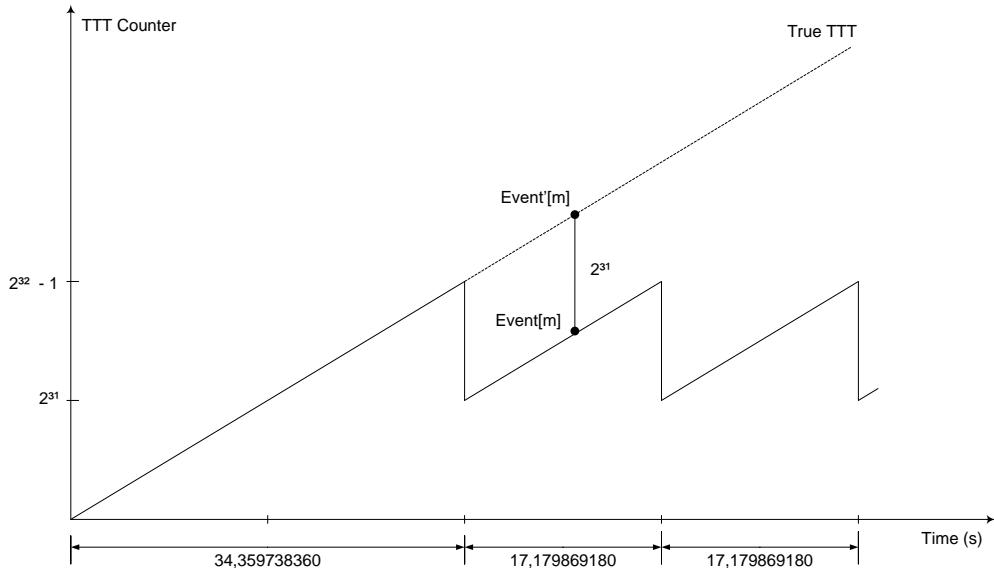
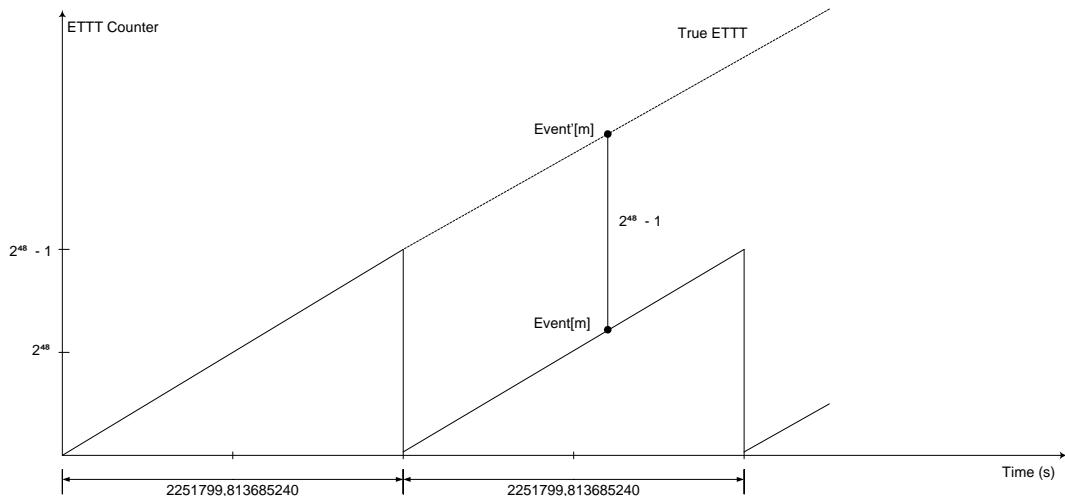

Fig. 10.8: TTT description
Fig. 10.9: ETTT description
- **TRIGGER TIME TAG** (bit[31:0] of 4th header word) is the Trigger Time Tag information (TTT), which is the trigger time reference (see Sec. 10.5.3). The word is composed of the value of the 31-bit counter of the Trigger Time Tag (bit[30:0]) plus the overflow bit (bit[31]) indicating that the timestamp counter has overflowed at least once (Fig. 10.8). If the ETTT option is enabled, then this field becomes the 32 less significant bits of the 48-bit Extended Trigger Time Tag information in addition to the 16 bits (MSB) of the TRG OPTIONS field (2nd event word). Note that, in the ETTT case, the overflow bit is no more provided (Fig. 10.9). The trigger time tag is reset either after each start of acquisition or via front panel signal on GPI connector and increments at the frequency of 125 MHz (8ns). The trigger time tag value is then read at half this frequency (62.5 MHz), so the Trigger Time Tag specifications result in 16 ns resolution and 17 s range (i.e. $8 \text{ ns} \times (2^{31}-1)$), which can be extended to 625 h (i.e. $8 \text{ ns} \times (2^{48}-1)$) by the Extended Trigger Time Tag option.